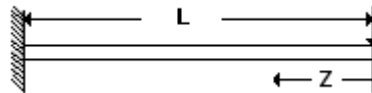

Figure 6:
1. For the single element cantilever beam as shown in figure 6, determine the fundamental frequency of oscillation. [16]